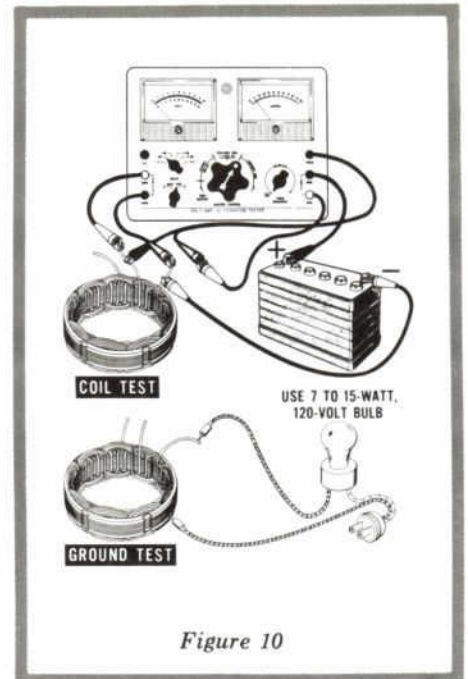

Figure 10
1. With the stator assembly disconnected from the diode and plate assembly, connect the tester as shown in Figure 10. The voltmeter test clips must be attached to the coil wire directly. A separate carbon pile rheostat in series with an ammeter, and a